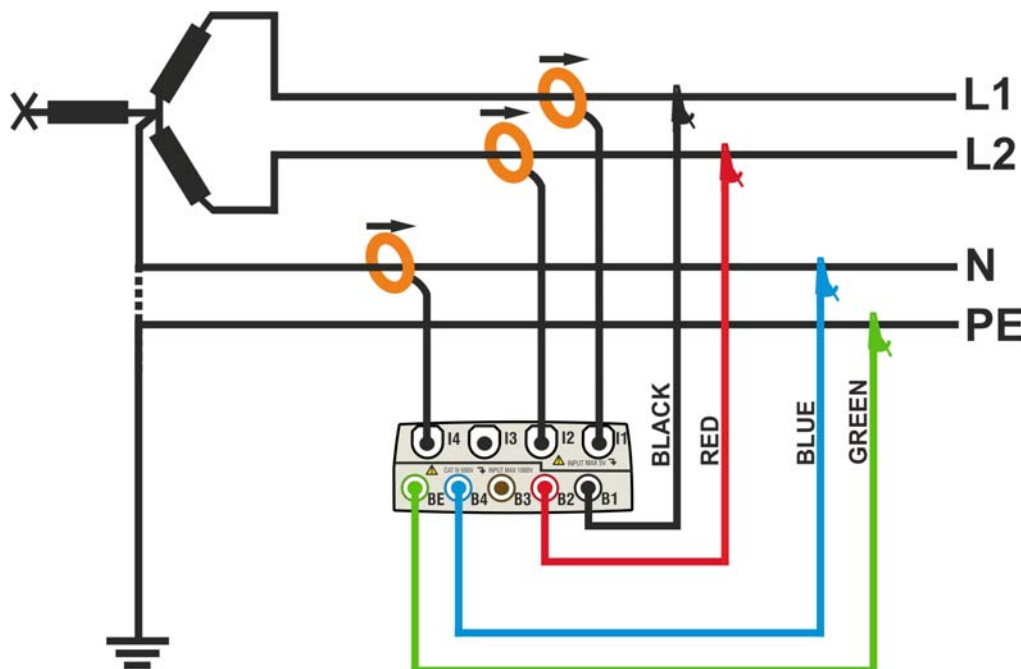

Fig. 128: Meter connection in a two phase 3-wire 3P OY system – ENG type
2. Connect voltage test leads on Phases L1, L2, N and PE cables considering the colours as shown in Fig. 128
3. Connect the transducer current clamps on Phase L1, L2, N cables as shown in Fig. 128 respecting the clamp's arrow direction indicating the current standard sequence from generator to load. **On Real Time Values' section screens (selecting a 3 wire system preliminarily) always verify the positive value of Active Power and the power factor relative to load which should be normally inductive before starting a recording.** Reverse the clamp by 180 degrees on cables in case of negative readings.